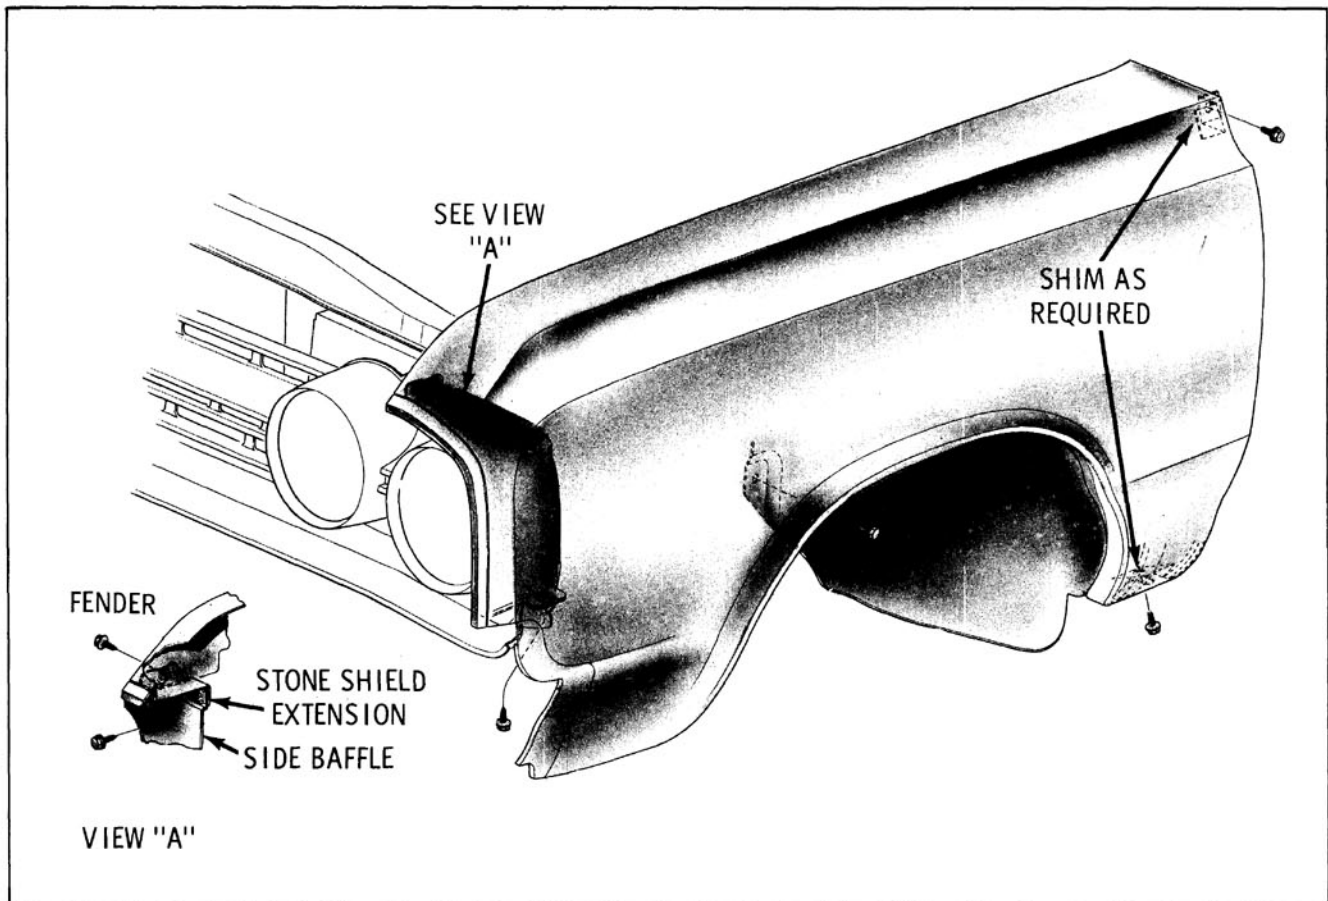

Fig. 15-107 Fender Mounting
1. Remove the screws indicated at shim points in Fig. 15-107.